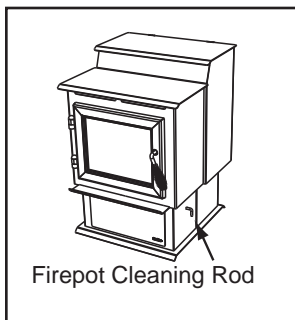
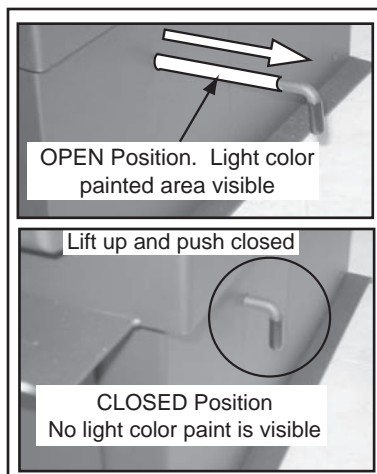

Figure 13.1
Figure 13.2
- Locate the firepot cleaning rod on the right side of the appliance. **Figure 13.1.** When you pull the cleaning rod straight out it will slide open the firepot floor to allow the ashes to be deposited in the ash drawer. You will see the light color painted area on the cleaning rod to let you know the rod is in OPEN position. **Figure 13.2.**
- To close the firepot floor: **slightly raise the cleaning rod** and then push it back into place. If you have closed the cleaning rod properly (pushed all the way in) you will not see any of the light color painted area. **Figure 13.2.**